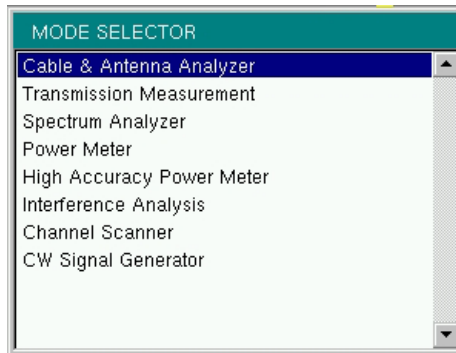

Figure 2-13. Mode Selector Menu
To access the functions under the Mode menu, select the **Shift** key, then the **Mode** (9) key. Use the directional arrow keys, the rotary knob, or the touch screen to highlight the selection, and press the **Enter** key to select. The list of modes that appear in this menu will vary depending upon the options that are installed and activated in the instrument. Figure 2-13 is an example of the Mode menu. Your instrument may not show the same list. The current mode is displayed below the battery symbol.